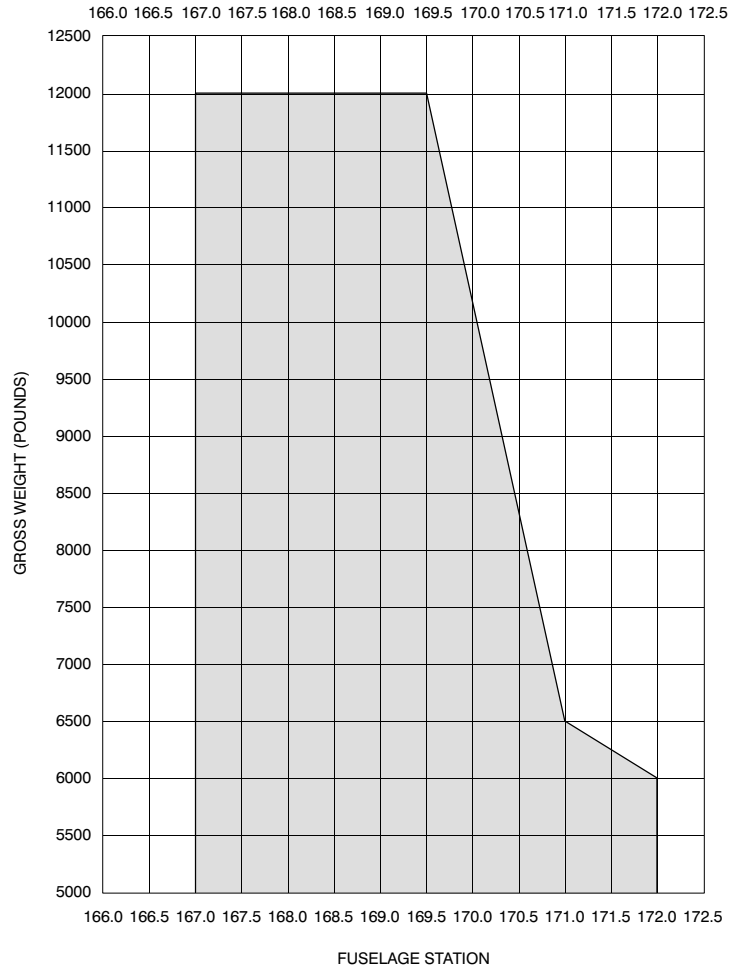

Figure 7-2. CG Limits
- Figure 7-2 Center of gravity limits